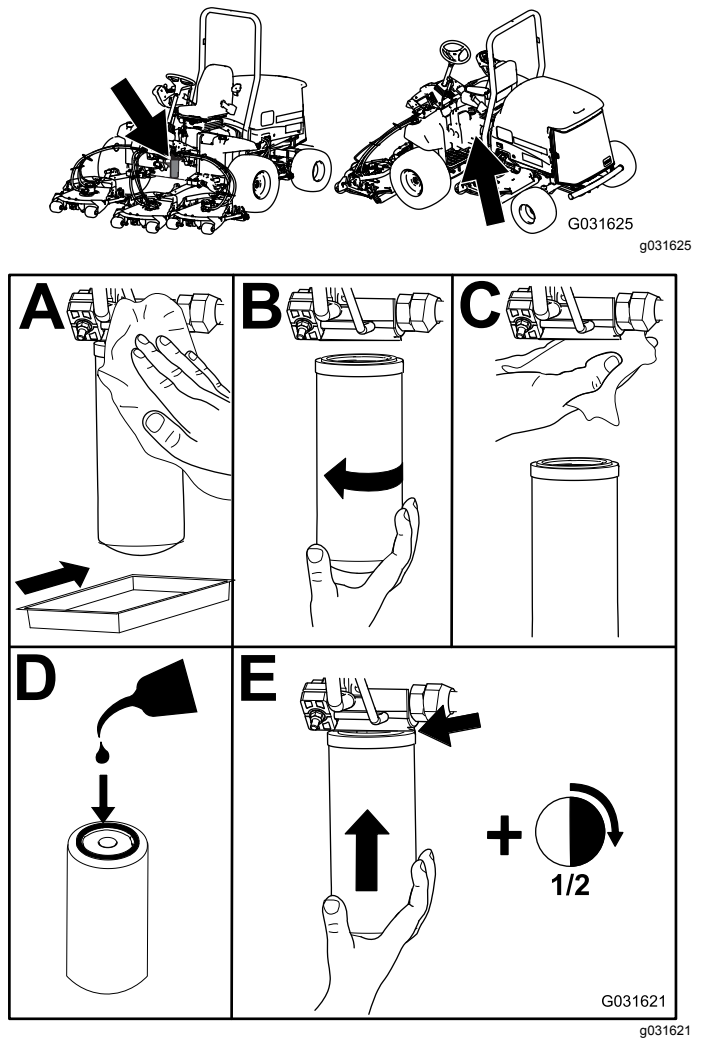

Figure 78
2. Replace both of the hydraulic filters (Figure 78).